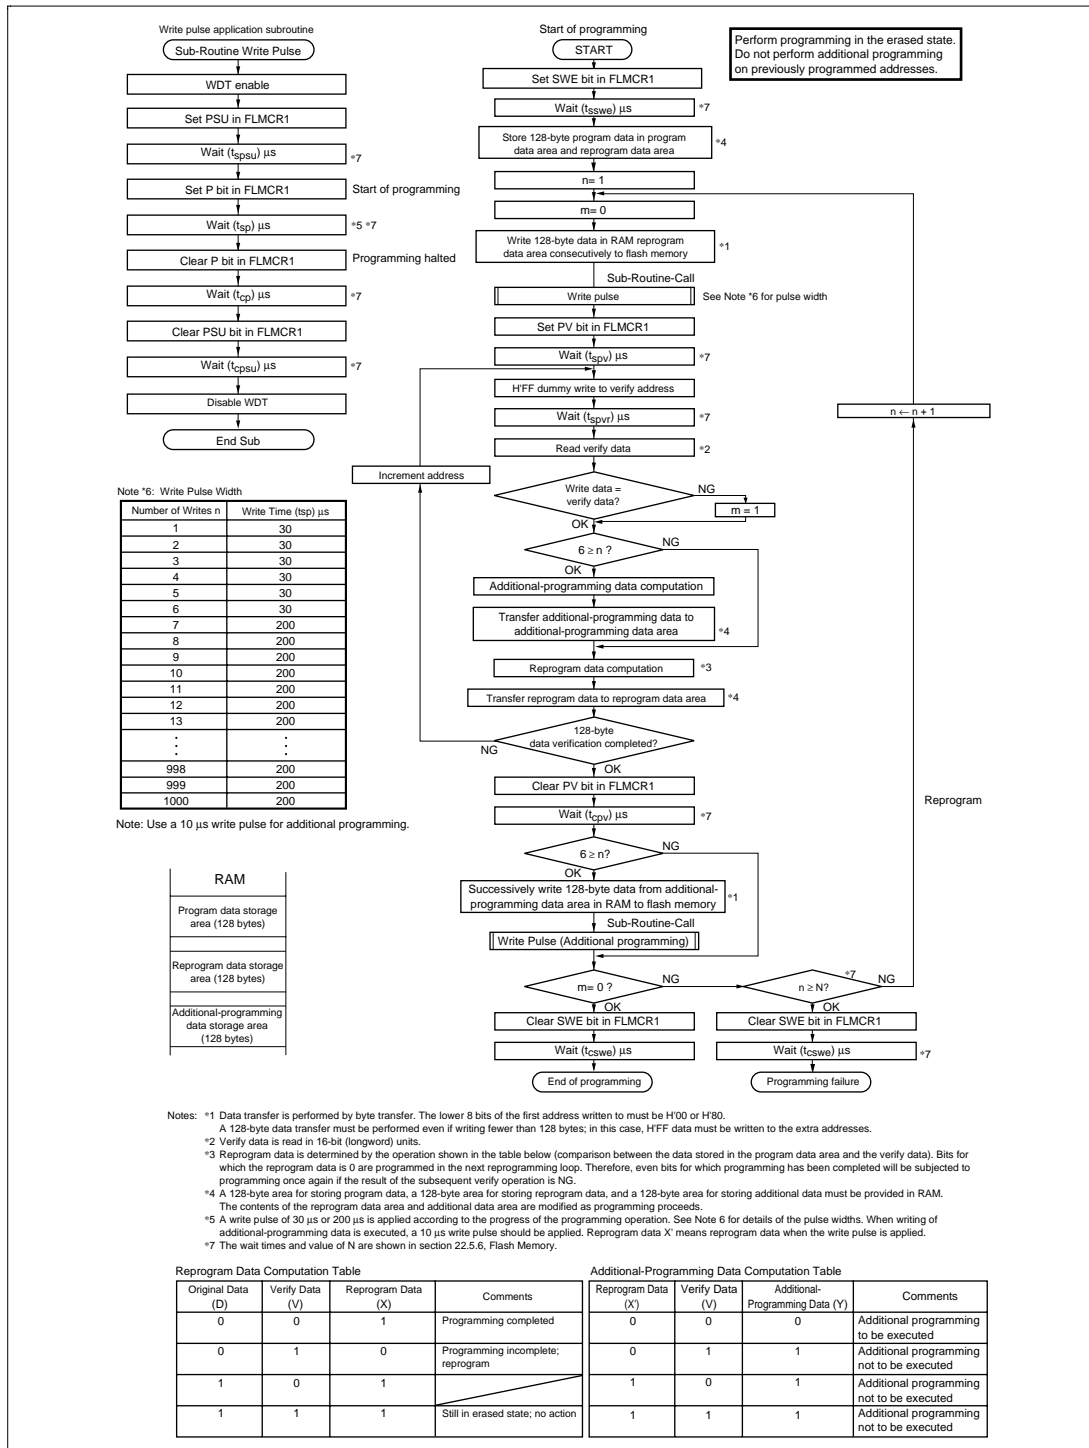

Figure 19.11 Program/Program-Verify Flowchart (128-Byte Programming)
When writing data or programs to flash memory, the program/program-verify flowchart shown in figure 19.11 should be followed. Performing programming operations according to this flowchart will enable data or programs to be written to flash memory without subjecting the device to voltage stress or sacrificing program data reliability. Programming should be carried out 128 bytes at a time.
After the elapse of the given programming time, clear the P bit in FLMCR1, then wait for at least (t_{cp}) μ s before clearing the PSU bit to exit program mode. After exiting program mode, the watchdog timer setting is also cleared. The operating mode is then switched to program-verify mode by setting the PV bit in FLMCR1. Before reading in program-verify mode, a dummy write of H'FF data should be made to the addresses to be read. The dummy write should be executed after the elapse of (t_{spv}) μ s or more. When the flash memory is read in this state (verify data is read in 16-bit units), the data at the latched address is read. Wait at least (t_{spvr}) μ s after the dummy write before performing this read operation. Next, the originally written data is compared with the verify data, and reprogram data is computed (see figure 19.11) and transferred to RAM. After verification of 128 bytes of data has been completed, exit program-verify mode, wait for at least (t_{cpv}) μ s, then clear the SWE bit in FLMCR1. If reprogramming is necessary, set program mode again, and repeat the program/program-verify sequence as before. The maximum number of repetitions of the program/program-verify sequence is indicated by the maximum programming count (N). Leave a wait time of at least (t_{cswe}) μ s after clearing SWE.
- 6. The program/program-verify flowchart for the H8/3062F-ZTAT B-mask version is shown in figure 19.11.